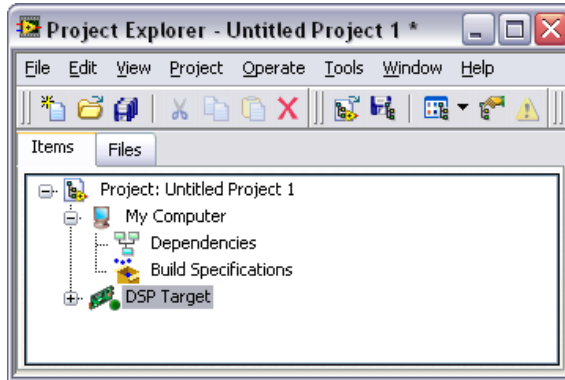

Figure 9. Renaming the Target in the Project
2. Enter `DSP Target` in the text box and press the <Enter> key to change the name of the target, as shown in Figure 9.